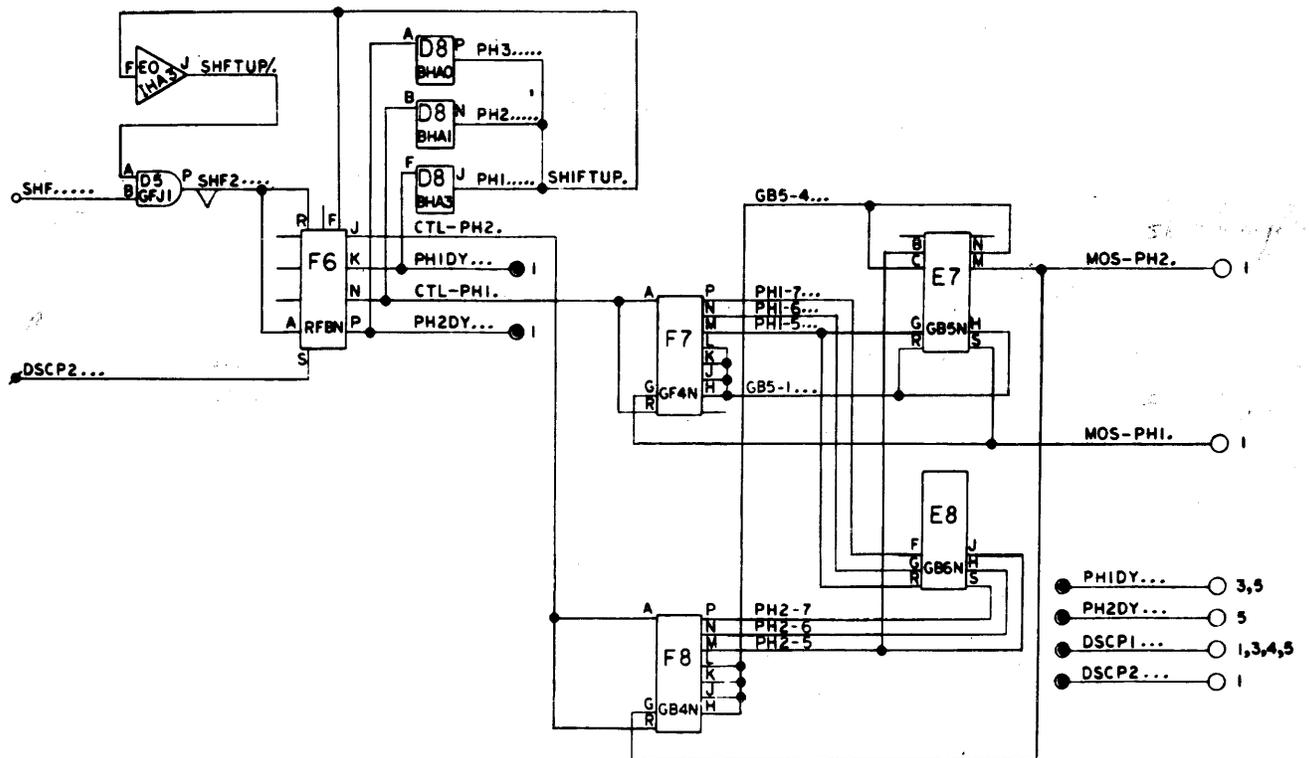
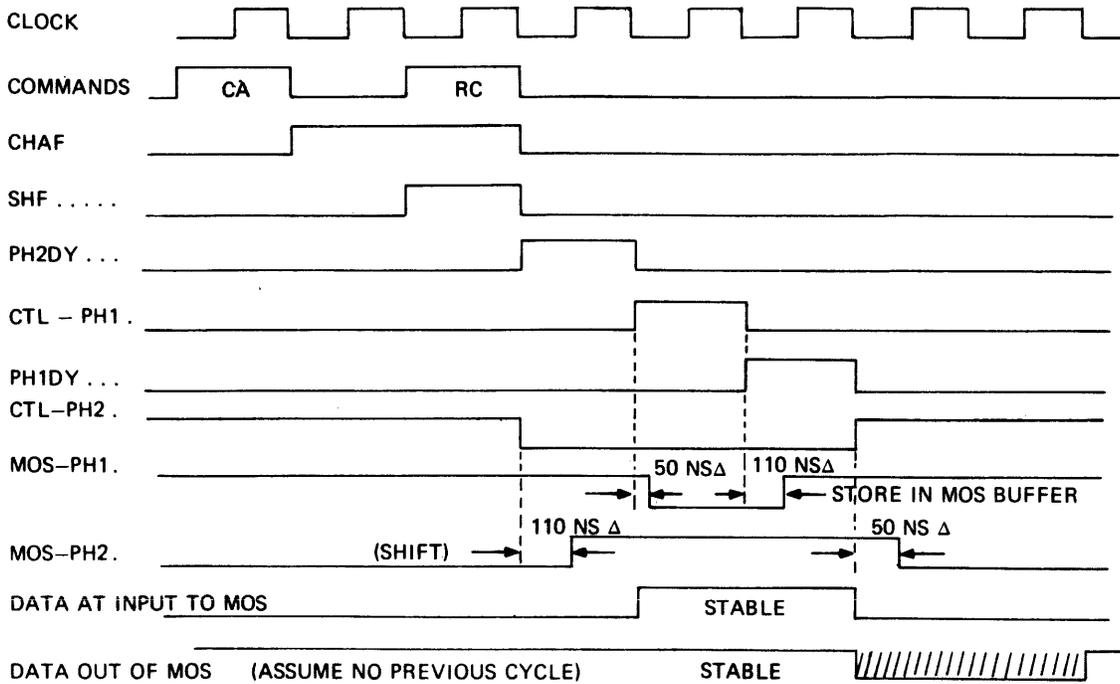

Fig. II-7 SHIFT REGISTER CONTROL LOGIC
Fig. II-8 SHIFT REGISTER TIMING
- STC07 Receive Byte 1 of the Reference Address and temporarily store in the Input Register. Enable the MOS Buffer Clock Logic (See Figure II-7) and store Byte 1 of the Reference Address in the Buffer shifting the data presently in the Buffer to the right (No significant data contained in the Buffer at this time). Upcount the Byte Counter by one.
Figure II-7 is a schematic diagram of the MOS Buffer clock logic also referred to as Shift Register Control. It is the function of this logic to produce a clock to the MOS BUFFER to shift the contents of the Buffer and insert new data into the initial stage of the Buffer. Quiescently the term CTL-PH2. is true and PH1DY. . . , CTL-PH1. and PH2DY. . . are false. When either data is to be stored or if the buffer data is to be shifted, the term SHF (SHIFT) must come true. When SHIFT comes true the Four Bit Register element (RFBN) will be placed in the "D" set mode and when the clock occurs, PH2DY. . . sets and CTL-PH2. resets. PH2DY. . . through a buffer produces the term SHIFT UP (SHIFTUP.) which places the RFBN element in the shift mode. Each clock that occurs (Refer to Figure II-8) will shift the RFBN up until CTL-PH2. is true again at which time the RFBN is no longer in the shift mode. The term which started the sequence of events (SHF. . . .) described above lasted for only one clock period and therefore the sequence of events terminates until SHF. . . . is made true again by the logic. The four outputs of the Shift Register Control produced two clocks (MOS-PH1. and MOSPH2.) which will shift the contents of the MOS SHIFT BUFFER and store new data in the BUFFER.
Phase2 Delay is set to initiate the Clock Generate which will place the contents of the Input Register in the MOS Buffer which in this case will result in the Reference Address Byte One being stored. Refer to Figure II-7 for a description of the clock and MOS Buffer.